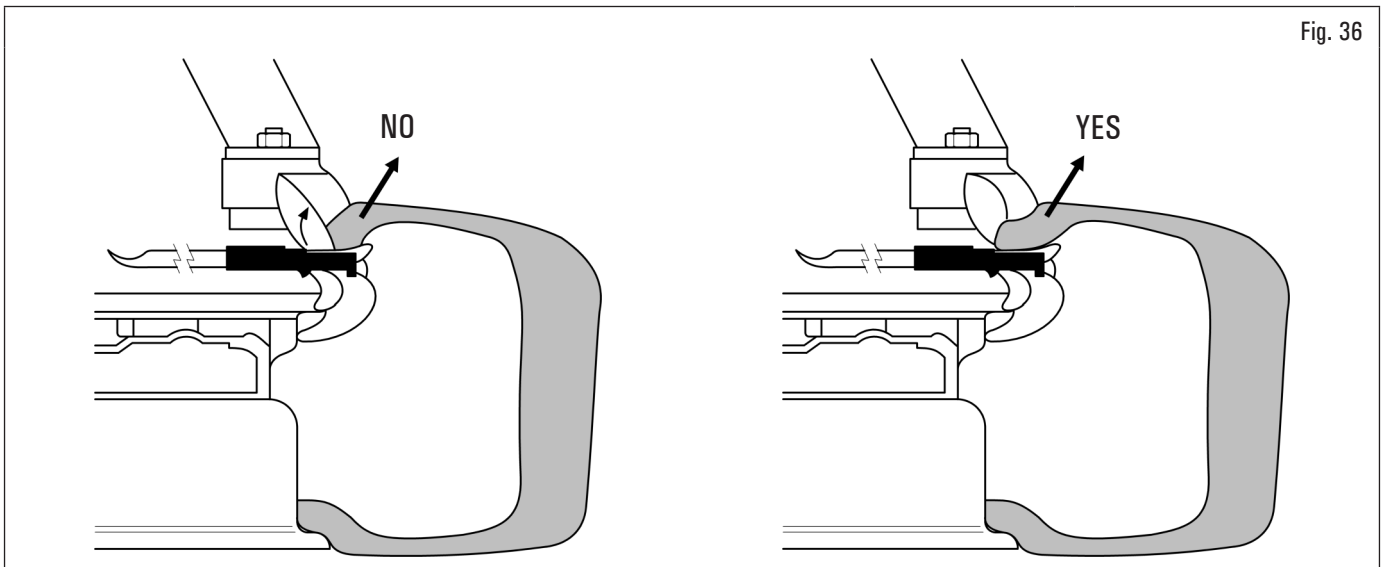

Fig. 36
9. when demounting hard tyres, the bead may come onto the toolhead with the lip turned. This causes the bead to slide from the lever when clockwise rotation begins. To avoid this problem rotate the wheel slightly anti-clockwise until the bead flattens. Now the clockwise demounting cycle can begin (see Fig. 36).